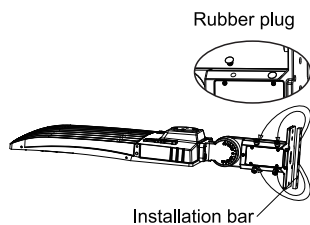

Figure 26
Step 1: Remove the four bolts from A&D bracket, remove the four rubber plugs from installation bar, put the four rubber plugs on the place where the four bolts were previously placed on the bracket for waterproof purpose(Figure 26)